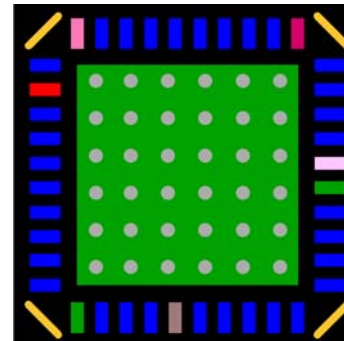

FIGURE 10. RECOMMENDED LAYOUT PATTERN FOR VIAS IN THE IC BOTTOM PAD
6. Place multiple vias under the thermal pad of the IC. The thermal pad should be connected to the ground copper plane with as large an area as possible in multiple layers to effectively reduce the thermal impedance. Figure 10 shows the layout example for vias in the IC bottom pad.